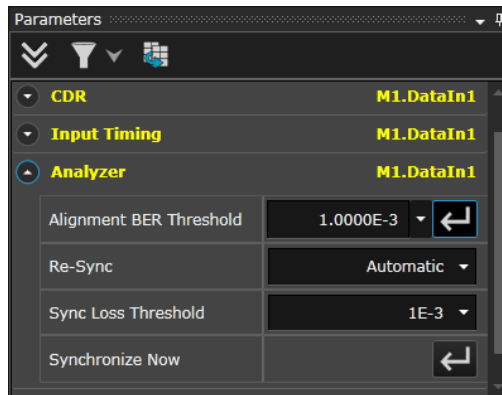

Figure 49 Alignment BER Threshold
- 14 Click on the **Alignment BER Threshold** button to synchronize and align the error detector as shown in Figure 49 on page -94.